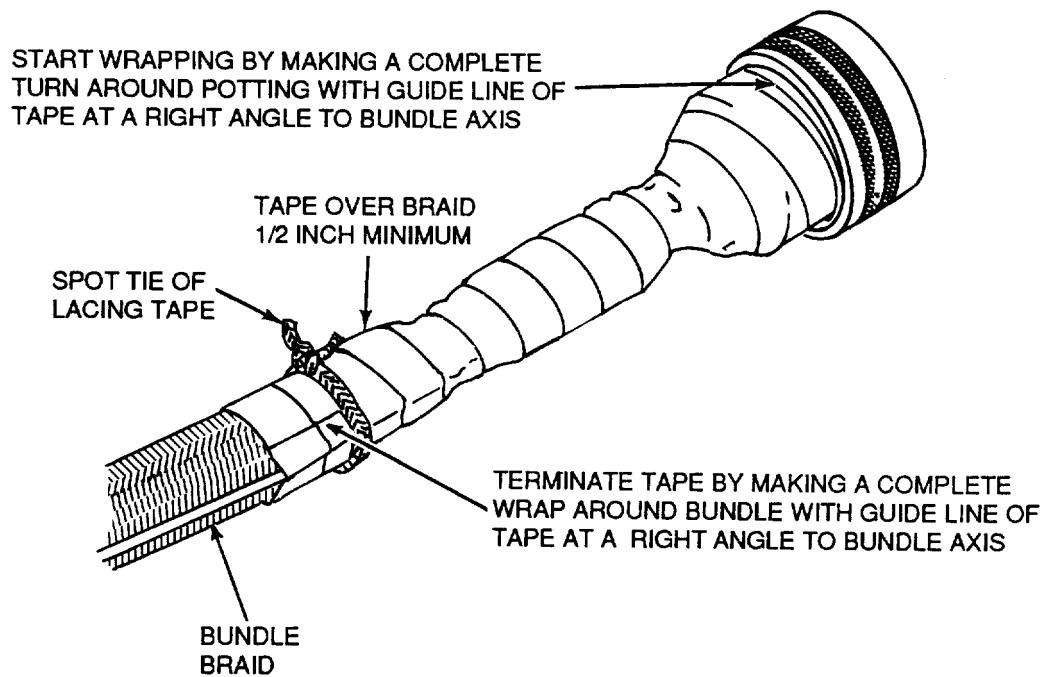
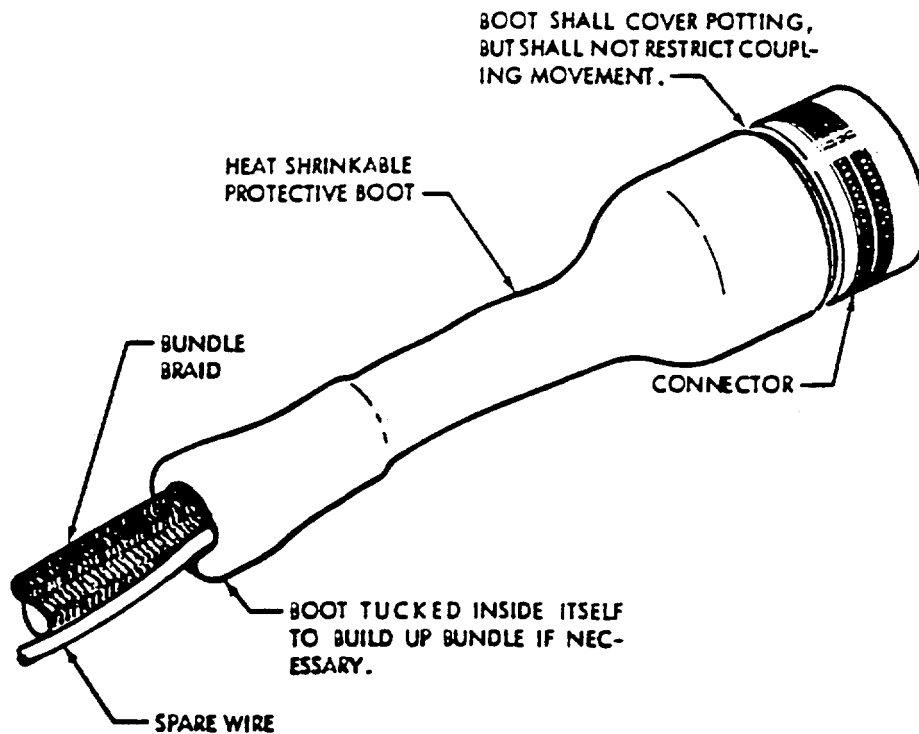

Figure 1. Tape Protective Boot
Figure 2. Shrink Protective Boot
9. **Protected Potting Boot Repair.** Since most over-braid ends near the end of the connector termination point, a boot must be fabricated from the end of the braid over the wire and over the back of the potting compound, which is connected to the connector. A protective boot (Figure 1) or a shrink protective boot (Figure 2) may be used.
10. **Fabricating Tape Protective Boot.** When a new boot must be fabricated use self-bonding tape as described below (Figure 1).